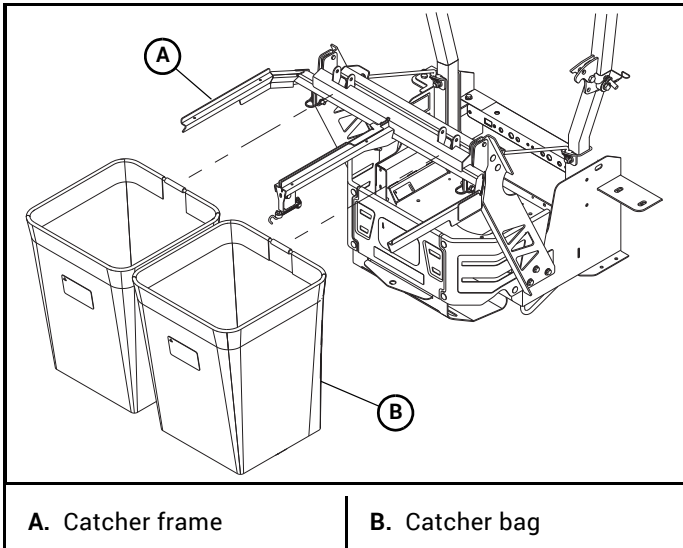

Figure 3-4
9. Slide the bags on the catcher frame. Figure 3-4